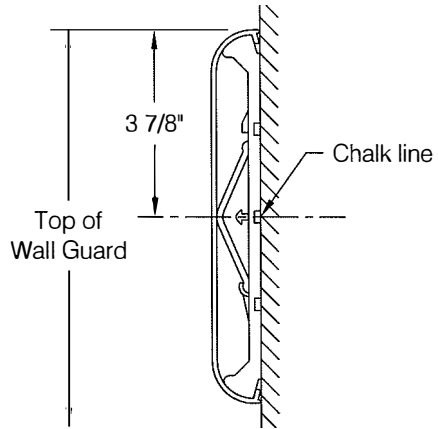

fig 1
- Step 1:** Determine top of wall guard height and snap a chalk line 3 7/8" below to locate centerline of wall guard and to provide a reference line for locating WG-8C Red-E-Clip® retainers, see **fig 1**.